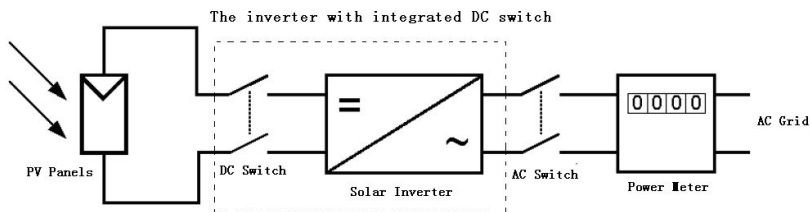

Fig.6 The PV system diagram
- DC Switch and AC Switch:** “DC switch” is between PV Panels and solar inverter while “AC Switch” is between AC Grid (Utility) and solar Inverter. They are simplified in this diagram. In fact, they may consist of electrical breaker, fuse and connecting terminals. To comply with local safety standards and codes, the connection system should be designed and implemented by a qualified technician. JFY-tech also provides the solar inverter with an integrated DC switch demonstrated in dashed border in Fig.6. –S suffix indicates the inverter is integrated a DC switch in PV input side.